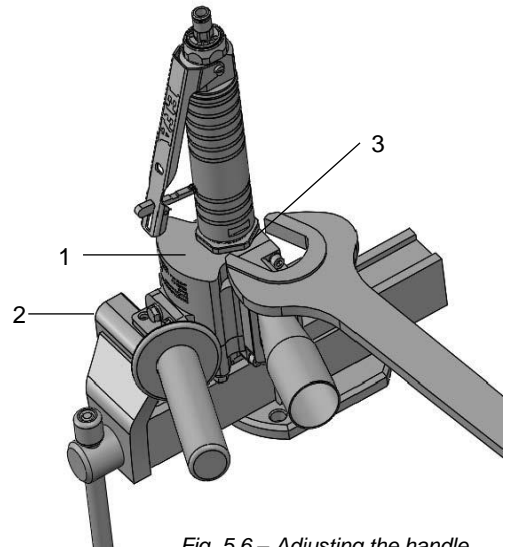

Fig. 5.6 – Adjusting the handle
- 1) Clamp the EFA CT on the carrier (1) in the vice (2) so that the locknut (3) can be reached with the open-end spanner. See Fig. 5.6.
- 2) Loosen the locknut (3).
- 4) Tighten the locknut (3) again firmly.